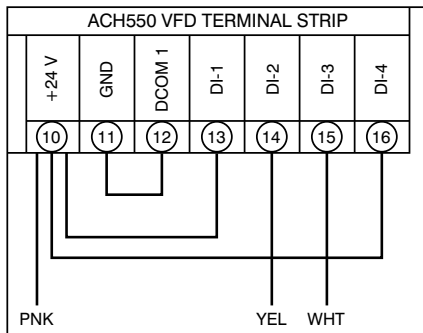

Fig. 29 — ACH550 VFD Wiring
- For ACH550 VFDs the voltage is sourced from the VFD at its terminal 10 (+24 V). 2-Speed Indoor Fan Motor speed inputs are received at terminals 14 (DI-2) for low speed (40 Hz) motor operation and 13 (DI-3) for high speed (60 Hz) motor operation. See Table 12 and Fig. 29 (on page 20).